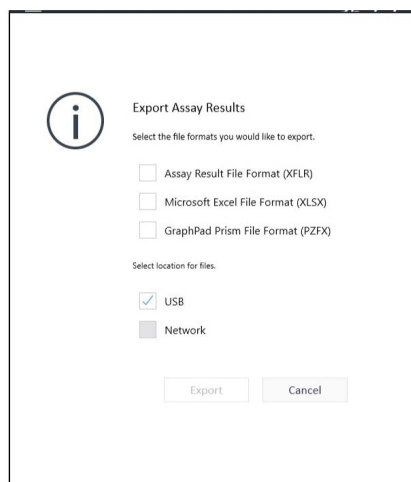

Figure 26. Export options dialog box.
- Export options:** Assay result files may be exported to Microsoft Excel or GraphPad Prism file formats (requires a USB flash drive or shared network directory). See Figure 26. To export these files (either individually or collectively) to a network location or USB, click the individual check box or click **Select All**, and then click **Export**.